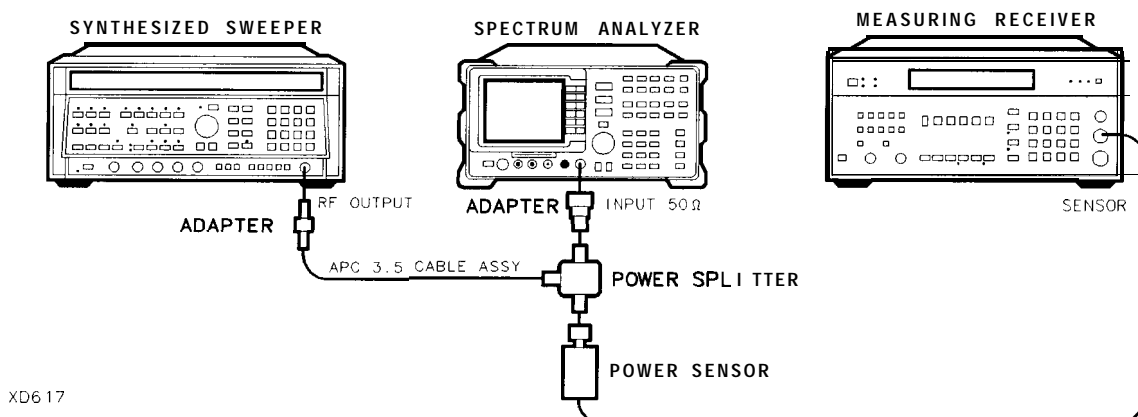

Figure 2-36. Frequency Response Test Setup,  $\geq 50$  MHz
2. Connect the equipment as shown in Figure 2-36.